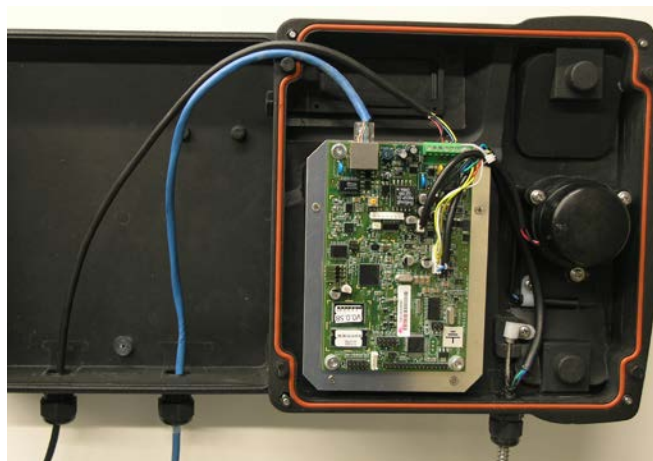

Figure 6 - Temporary Mounting for Wiring
**See:** Figure 6 - Temporary Mounting for Wiring